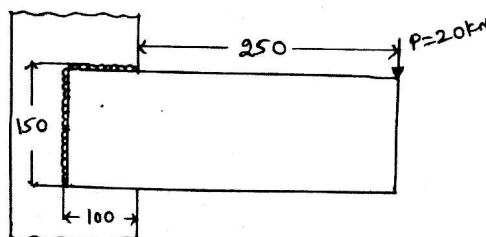

Fig.Q8(a)
- 8 a. A 16 mm thick plate is welded to a vertical support by two fillet welds as shown in Fig.Q8(a). Determine the size of weld, if the permissible shear stress for the weld material is 75 MPa .